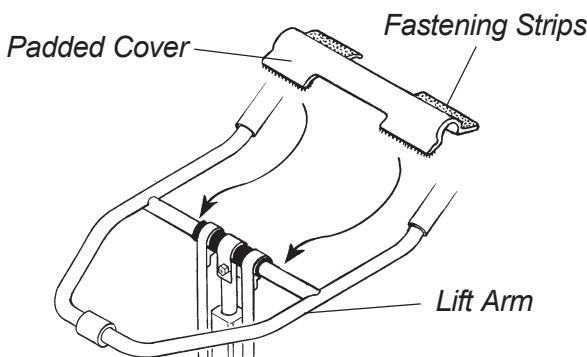

**FIGURE 5 - REPLACING OPTIONAL LEG STRAP**
### REPLACING OPTIONAL LEG STRAP (FIGURE 5)
1. Remove TOP (2) button screws and washers that secure knee pad and existing leg strap to stand up lift.
2. Loosen BOTTOM two (2) button screws and washers that secure knee pad and existing leg strap to stand up lift.
4. Position the new leg strap between the four (4) mounting holes as shown in **FIGURE 5**.